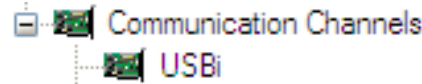
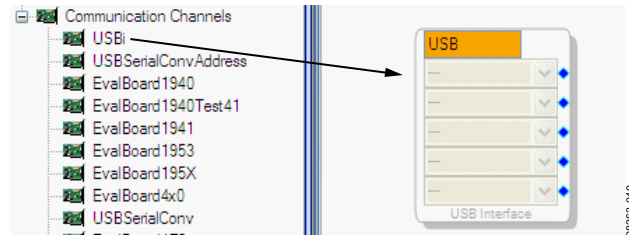

Figure 9. Adding the USBi Communication Channel to the Evaluation Board for the ADAU144x
Figure 10. Adding a USBi to the Project
- b. Within the **Tree Toolbox** there is a subsection called **Communication Channels**. From the list of **Communication Channels**, click and hold **USBi** dragging it to the right into the empty white project space. See Figure 9 and Figure 10 for details.